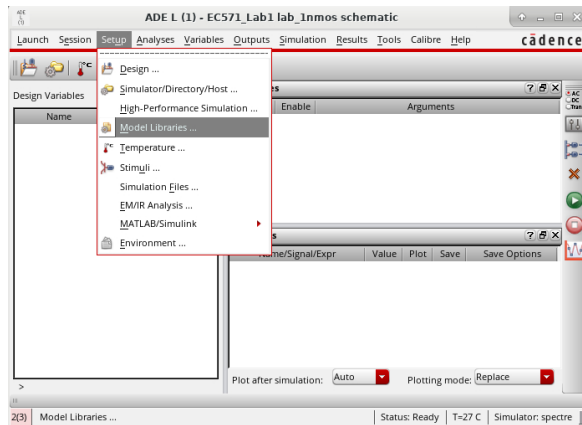

Figure 16: Opening “Model Library Setup”
- Before running any simulations, the simulator needs to know about the process and the device models. In the “ADE L” Window, go to Setup → Model Libraries (Figure 16). This will open the “Model Library Setup” window.